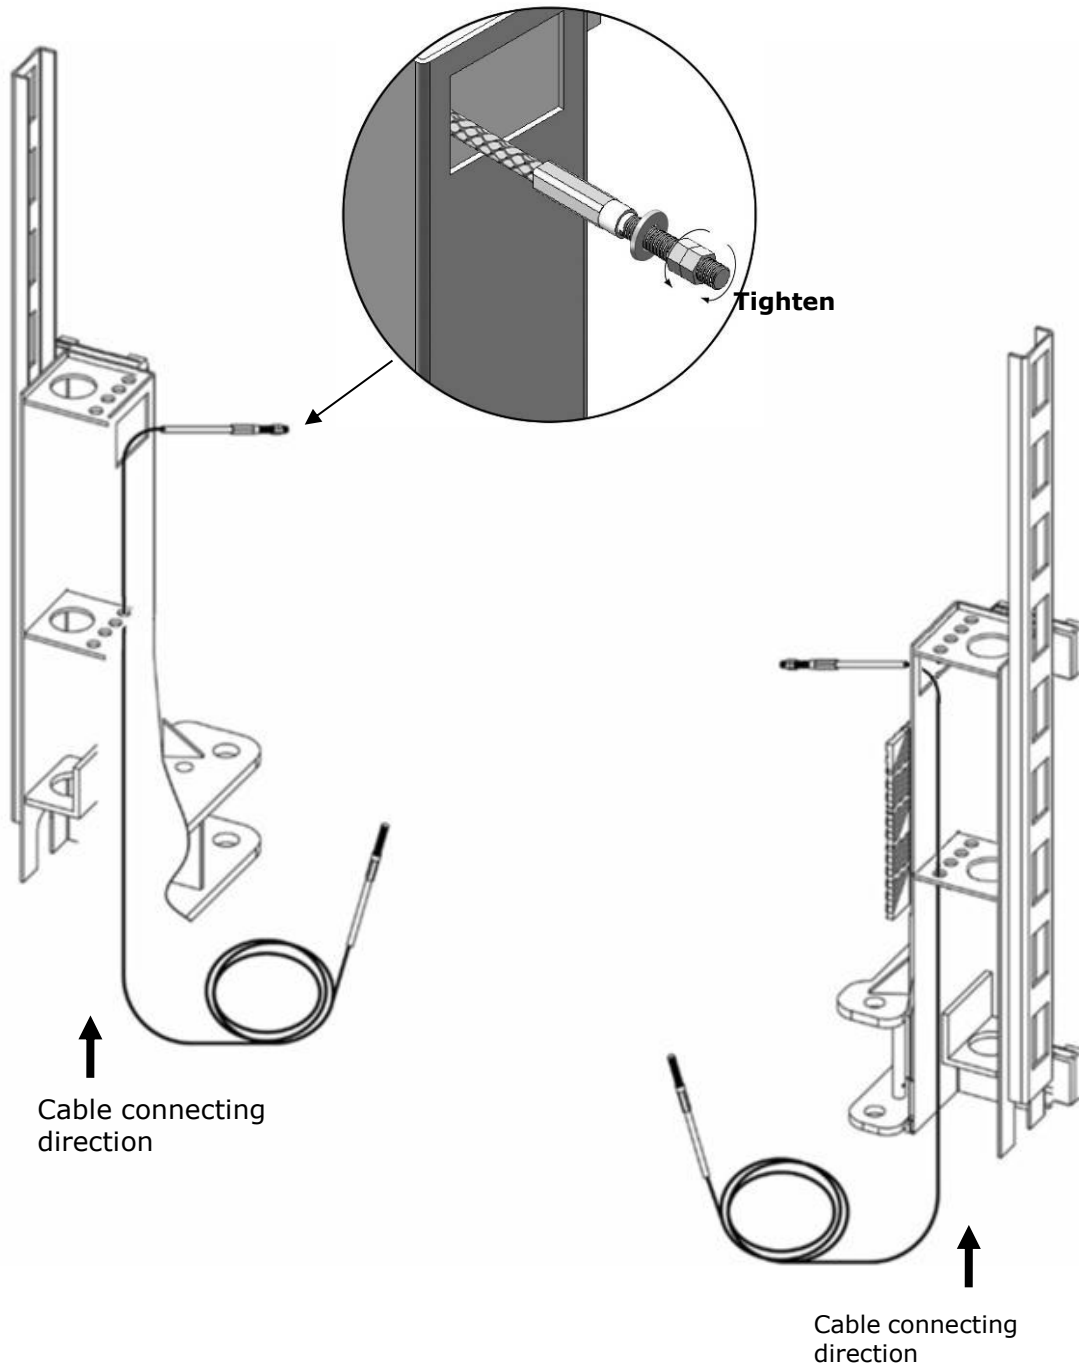

Fig. 30
- 1.1 Remove the carriages plastic cover, sync cable across from the bottom of the carriages and pull it out from the hole of carriage, then tighten two cable nuts. **(See Fig. 30)**